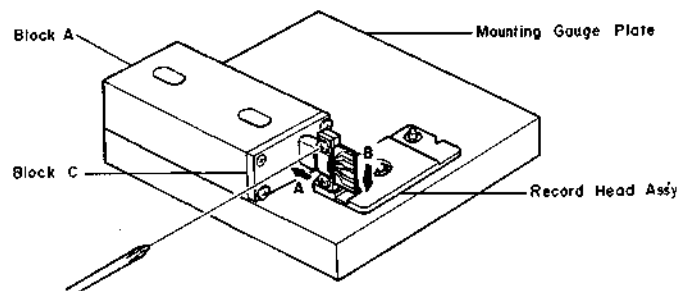

Fig. 4.22
- (5) Remove the Block B from the Mounting Gauge Plate.
- (6) As shown in Fig. 4.22, mount the R-8L record head assembly onto the Mounting Gauge Plate, then check the location of the R-8L record head surface. (If record head contacts to the Block C, loosen 2 pcs. of screws that assemble record head and record head plate, then place the R-8L record head assembly onto the Plate.)
- (7) Remove the R-8L record head assembly from the Mounting Gauge Plate.
- (8) Readjustment of Record Head Mounting Gauge M-9048 (DA09048A)
- (9) Remove the Block B from the Mounting Gauge Plate.
- (10) Mount the R-8L record head assembly onto the Mounting Gauge Plate.
- (11) As shown in Fig. 4.22, loosen 2 pcs. of screws that assemble record head and record head plate. As the location of the Block A is secured by the item (8)-(c), push the record head to the directions A and B, then tighten 2 pcs. of screws.
- (12) Check to insure freedom from gap between the Block C and record head surface, then tighten the 2 pcs. of screws on the record head assembly with lock tight paint.
- (13) Remove the R-8L record head assembly from the Mounting Gauge Plate.
- (14) Assemble the record head assembly to the head mount base assembly.
- (15) Assemble the head mount base assembly to the mechanism assembly.
- (16) Check the record head stroke. If the above are inaccurate, items (1) through (16) will have to be repeated till satisfactory results are obtained.